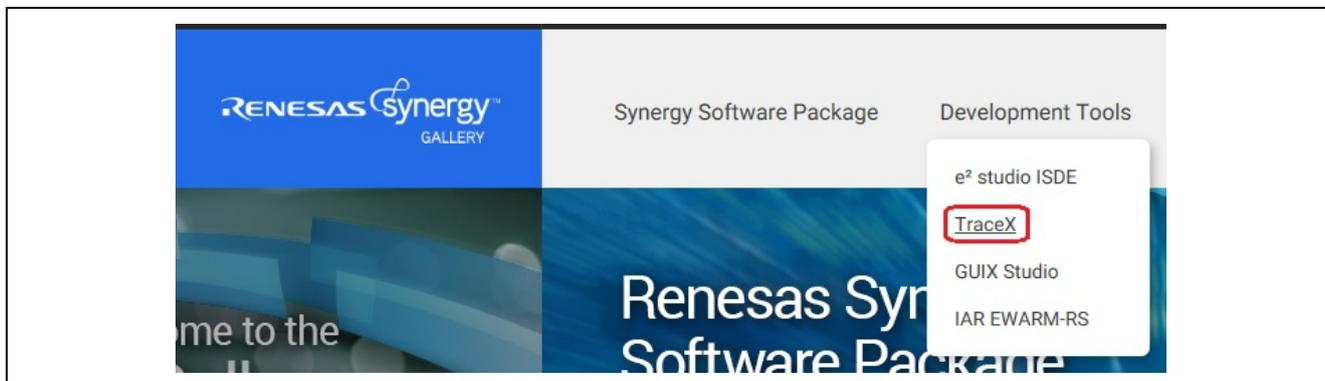

Figure 6 Navigating to the TraceX download page
1. Select **TraceX** under the **Development Tools** tab on the Renesas Synergy™ Gallery (<https://synergygallery.renesas.com/>) website (Figure 6).